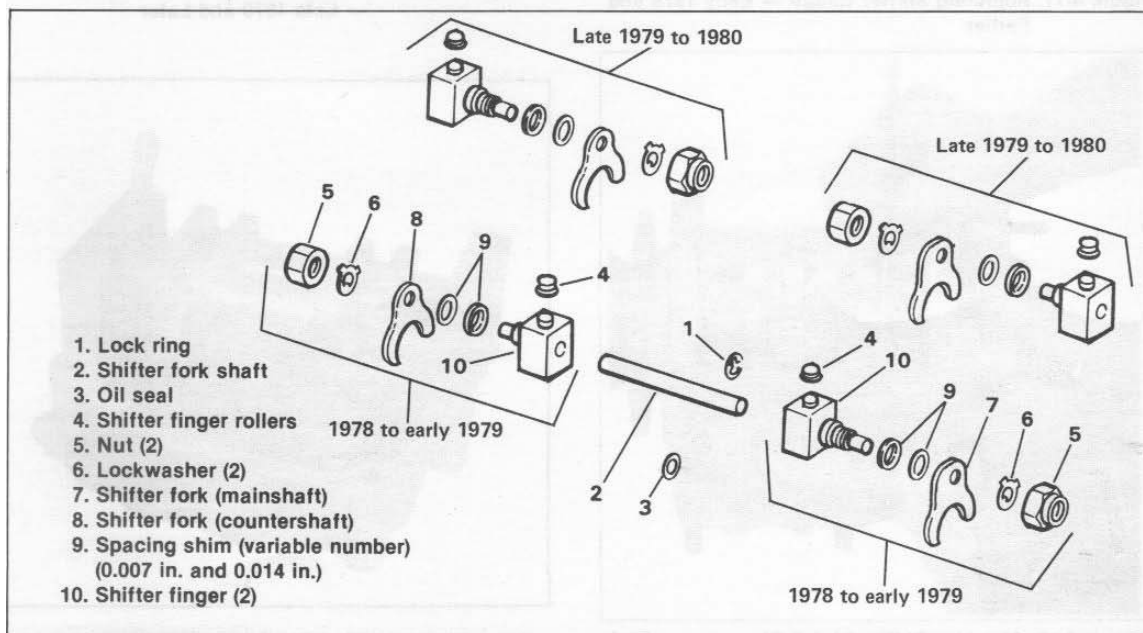

Figure 4-16. Shifter Fork — Exploded View
The disassembly and assembly procedure is the same for early and late style transmissions. However, on late 1979 and later transmissions, the shifter fork assemblies are reversed on the shifter shaft, that is, the side with the nuts (5) face the center of the shaft. See Figure 4-16.
REMOVING SHIFTER FORKS (Figure 4-16)
DISASSEMBLING SHIFTER FORKS (Figure 4-16)